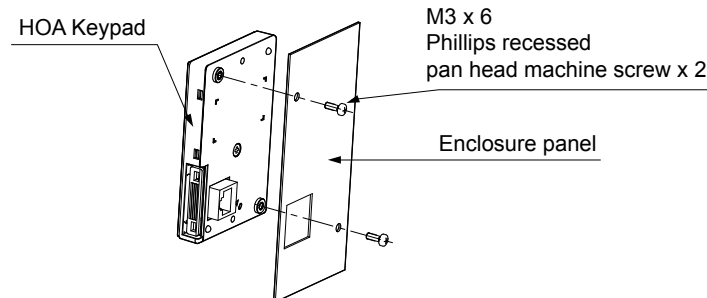

Figure 2.6 External/Face-Mount Installation
2. Position the HOA keypad so the display faces outwards, and mount it to the enclosure panel as shown in Figure 2.6.